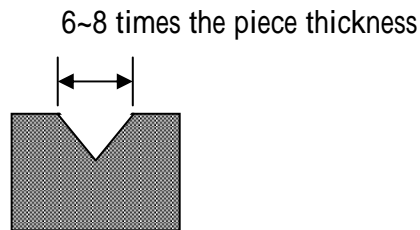

Fig 1
- (1) D-axis adjust value. (Parameter page 3)
- (2) Y- Opening default setting. (Parameter page 3)
- (3) D-axis HOME limit setting. (Parameter page 3)
- (4) The calculation of Y- opening default. (Parameter page 4)
- (5) Input the value in the Edit、 FOLD and TYPE mode.
- (6) C = Empty
- (7) G = 0.000
9. Ask the machine factory to ascertain the 90 degree's position of Y(D)-axis and to record the position. When doing the bending test, the setting value of trough width is recommended as 6~8 times the piece thickness. (Fig 1)